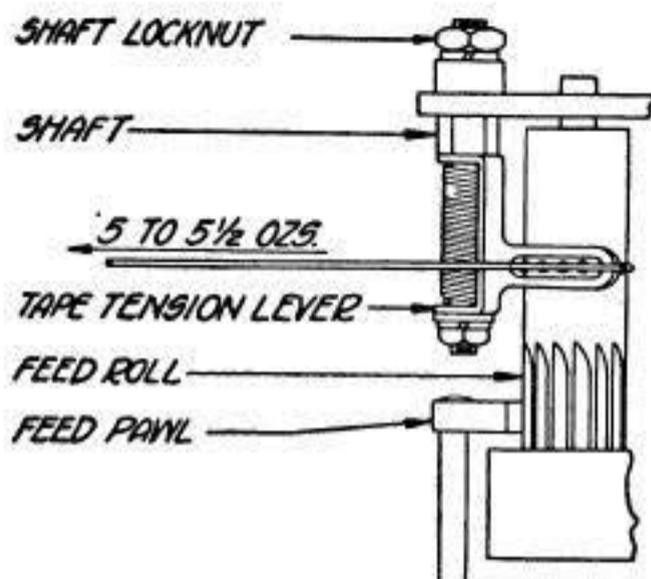

Fig. 34
(a) With the operating camsleeve in the stop position and the punch-control lever in the ON (to the left) position there should be some clearance, not more than .006", as indicated in Fig. 34, between the punch-hammer stop screw and the punch hammer.
- (1) To adjust, loosen the tape-tension-lever shaft lock-nut, and turn the spring by rotating the tape-tension-lever shaft (clockwise to increase and counter-clockwise to decrease the tension). **Fig. 34**